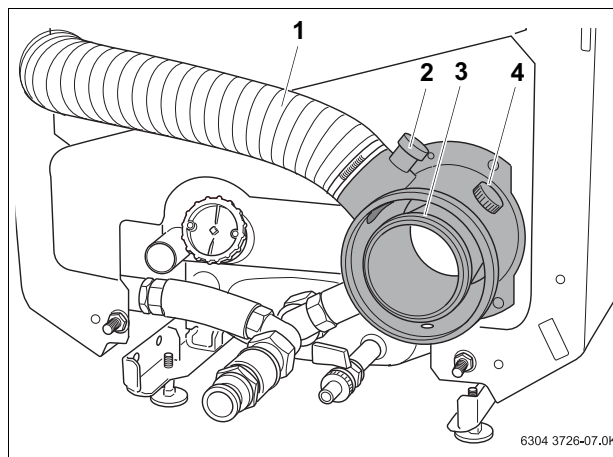

Fig. 11 Fitting the flue/air pipe socket
The readings must always be taken from the flue pipe (Fig. 11, **Item 3**) or the flue/air pipe socket (Fig. 11, **Item 2**).
- Insert the testing probe into the air supply socket testing point (Fig. 11, **Item 2**) and measure the air supply temperature.
- Insert the testing probe into the flue socket testing point (Fig. 11, **Item 4**) so as to reach into the center of the gas flow (center of the flue pipe – highest flue gas temperature) and measure the CO2 content.